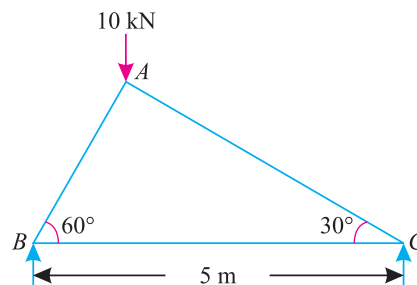

Fig. 13.5.
**Example 13.1.** The truss ABC shown in Fig. 13.5 has a span of 5 metres. It is carrying a load of 10 kN at its apex.